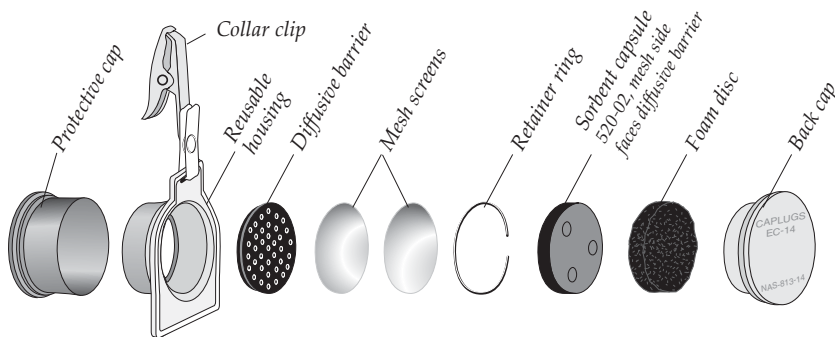

Figure 1. Complete Assembly of Passive Sampler for Inorganic Mercury
5. Re-assemble sampler housing for storage, without the sorbent capsule or foam disk (see Figure 1).